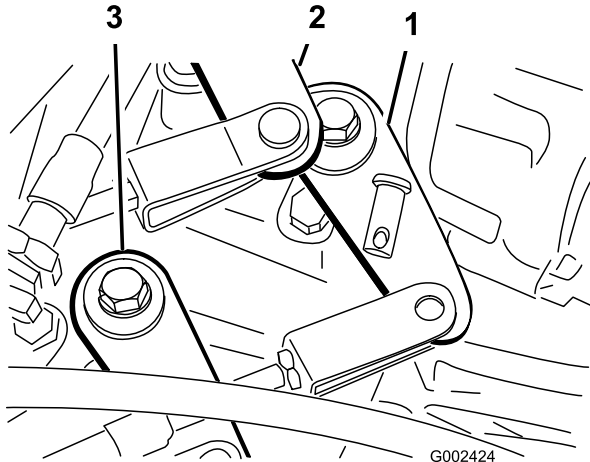

Figure 55
2. Remove the clevis pins securing the shift cables to the transaxle shift arms (Figure 55).
1. Remove the clevis pin securing the High—Low cable to the transaxle (Figure 55).